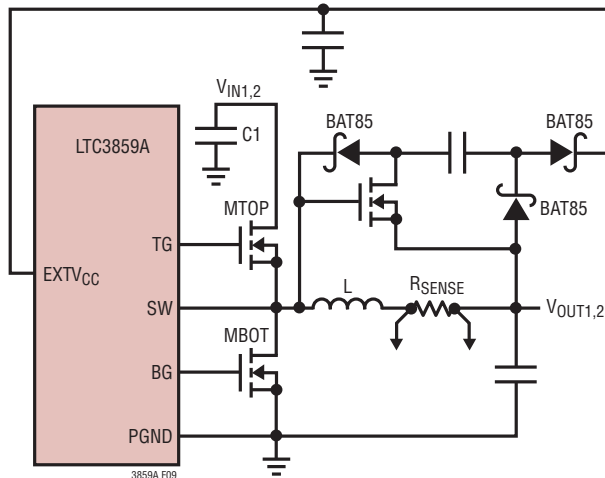

Figure 9. Capacitive Charge Pump for  $EXTV_{CC}$
4.  $EXTV_{CC}$  connected to an output-derived boost network off one of the buck regulators. For 3.3V and other low voltage buck regulators, efficiency gains can still be realized by connecting  $EXTV_{CC}$  to an output-derived voltage that has been boosted to greater than 4.7V. This can be done with the capacitive charge pump shown in Figure 9. Ensure that  $EXTV_{CC} < V_{IN}$ .